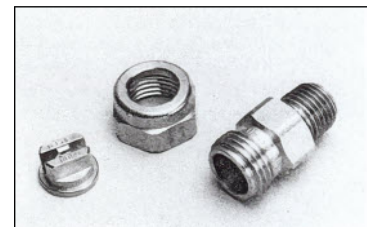

Figure 4
- E. If the spray nozzle assembly becomes clogged, remove it and clean with solvent (Acetone or Methyl Ethyl Ketone). The assembly contains 3 parts (Figure 4). The fluid tip (left) determines the type of pattern. The threaded ring (center) holds the tip and the adapter (right) to receive the threaded ring.